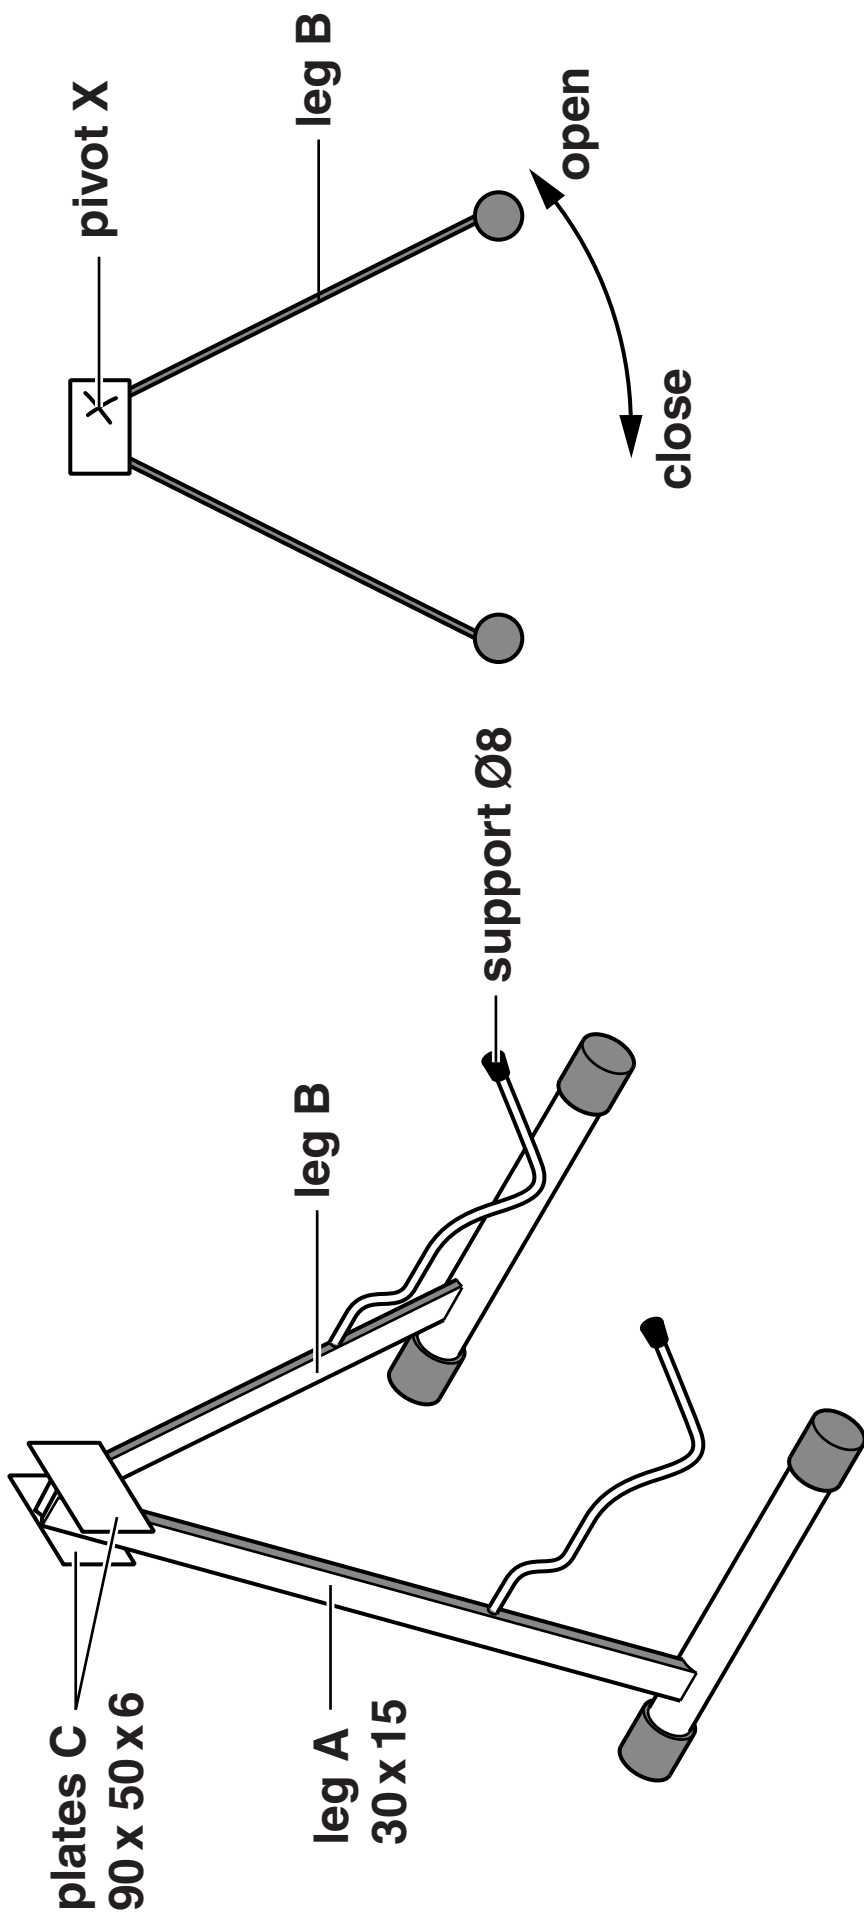

Fig. 2
- 2 Fig. 2 (opposite) shows views of an incomplete guitar stand made from mild steel.